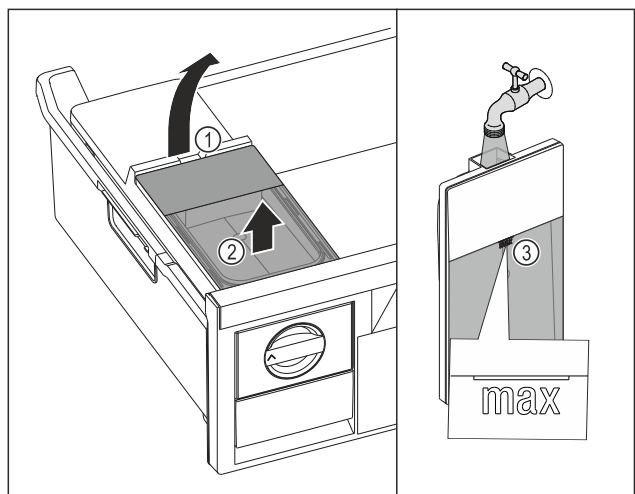

Fig. 67
- ▶ Lift the water tank at the recess Fig. 67 (1).
- ▶ Remove the water tank by lifting it upwards. Fig. 67 (2)
- ▶ Fill the water tank with drinking water up to the mark Fig. 67 (3).